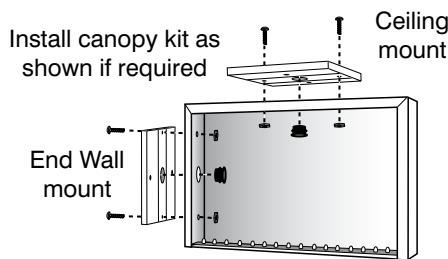

Figure 4
6. Secure the sign to the wall or ceiling using the supplied 1-1/2 inch screws and nuts. Screw directly to junction box if possible. A universal spider plate is supplied to allow for sign placement adjustment or connection to a variety of electrical boxes (Figure 4).